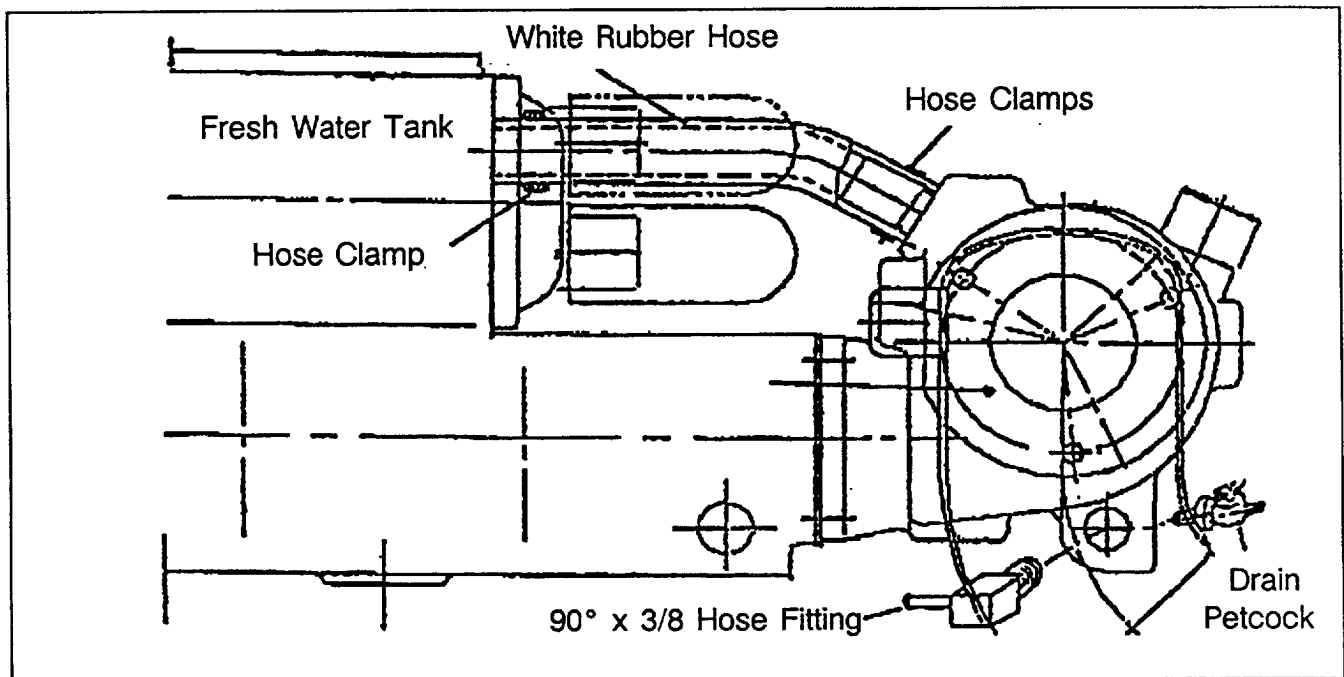

Figure 3.
- c. At the same time, insert white rubber hose to outlet hose fitting of turbocharger. See Figure 3.